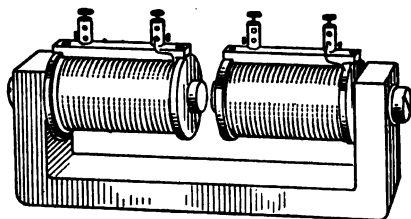

FIG. 273.—Electromagnet for demonstrating induced e. m. f.
**317. Amount of induced e. m. f.** If we have a large electromagnet with flat-faced pole pieces (Fig. 273), we can demonstrate the various